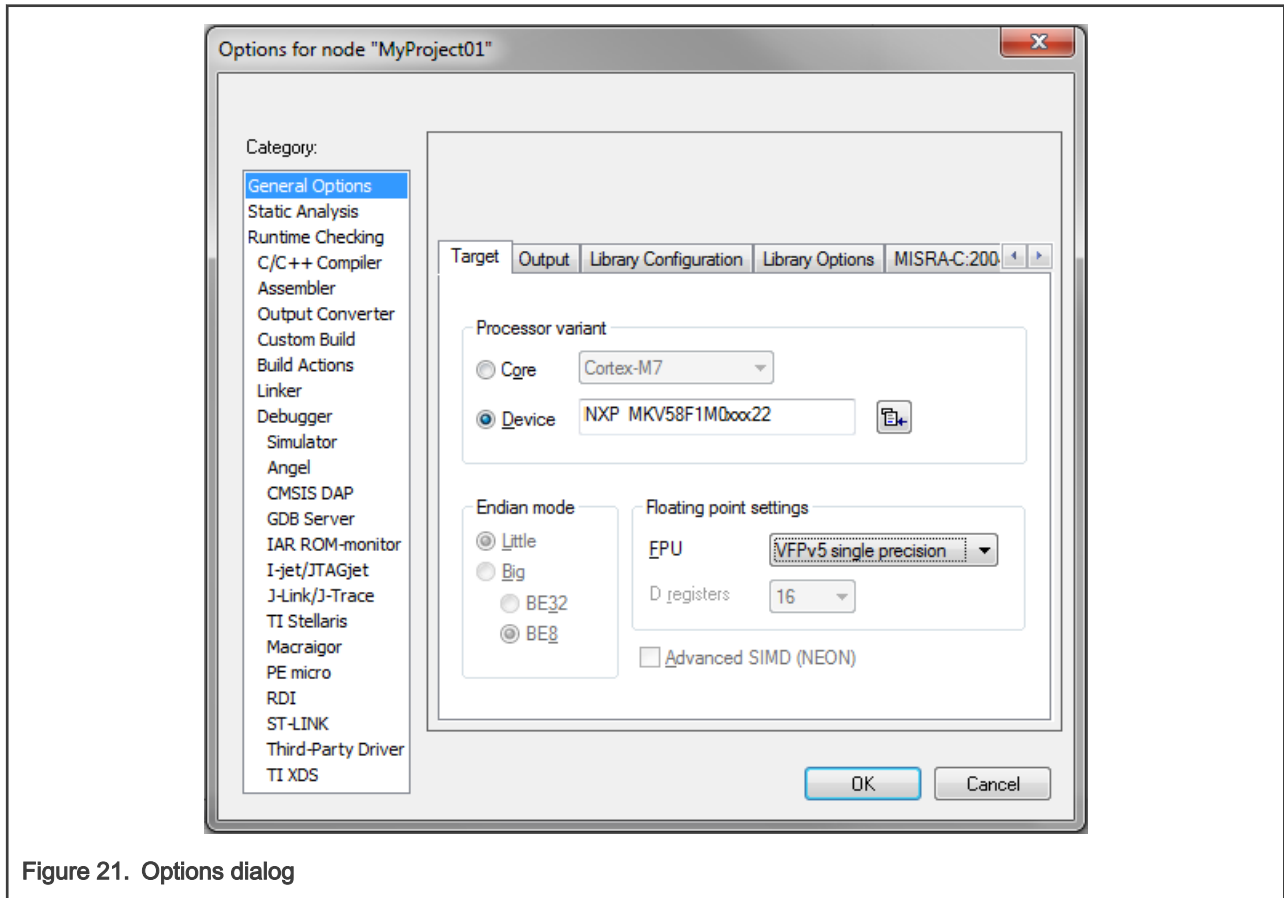

Figure 21. Options dialog
- In the Target tab, select the Device option, and click the button next to the dialog to select the MCU. In this example, select NXP > KV5x > NXP MKV58F1M0xxx22. Select VFPv5 single precision in the FPU option. Click OK. See Figure 21.